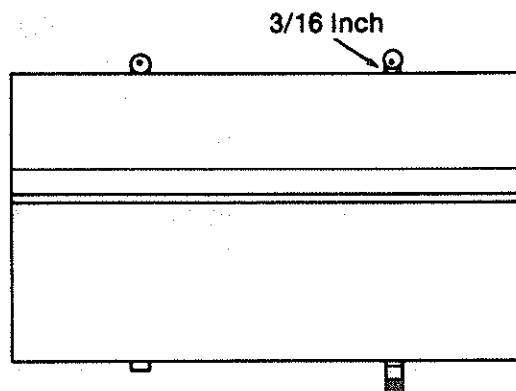

Fig. 103
6. Loosen the nuts under the *circular clamps* using a 7/16 inch wrench or socket. (Figure 103)
7. Turn each *clamp* until there is a 3/16 inch space between the *clamp* and the *rear table*. Make sure that the *rear table*, *fence* and *spacer* are firmly against the front table. (Figure 103)